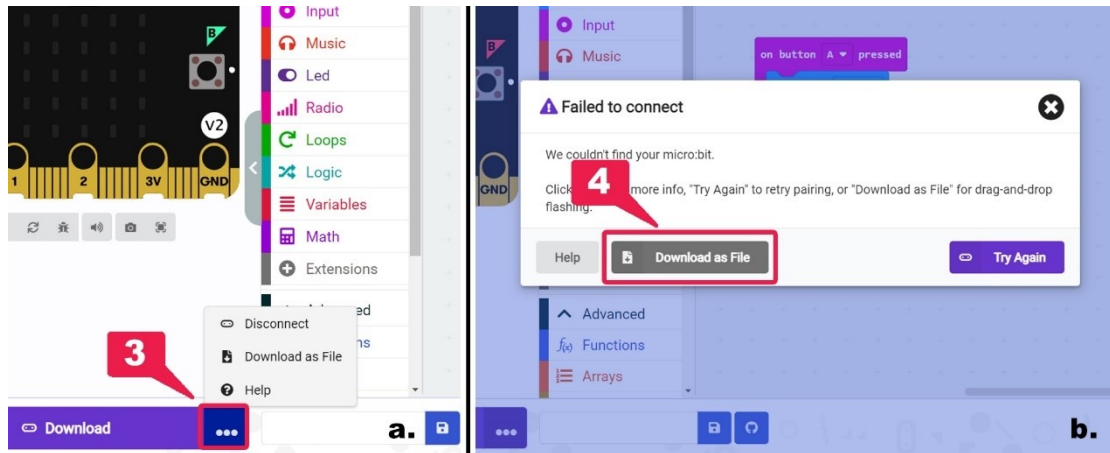

Figure 22: Downloading the project as a .hex file
Alternatively, if the micro:bit fails to connect, you can download the script locally to your computer as a .hex file by clicking on the '...' button (3) or clicking on the 'Download as File' button (4) (Figure 22).